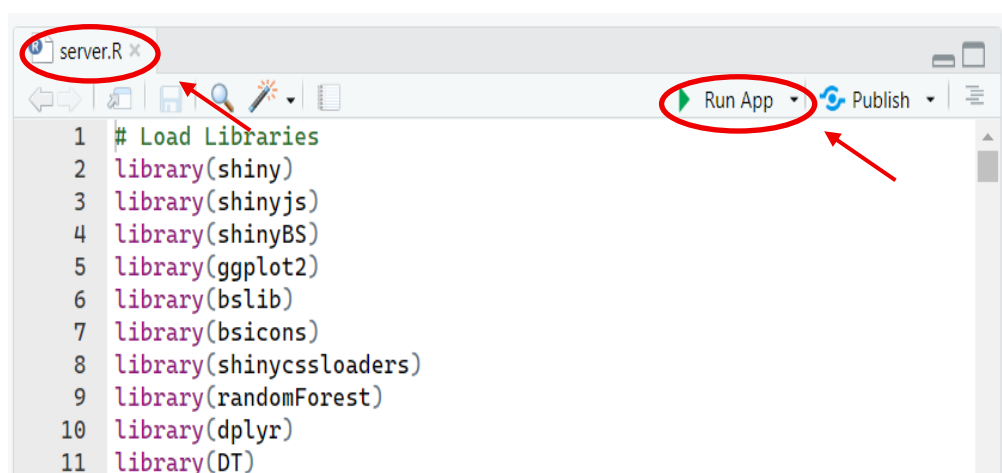

Figure 4. Click Run App in the server.R file to launch BulletAnalyzr.
- Click the `server.R` file to open it in RStudio's main window. (Figure 4)
- Click Run App in the main window to launch the app. (Figure 4)